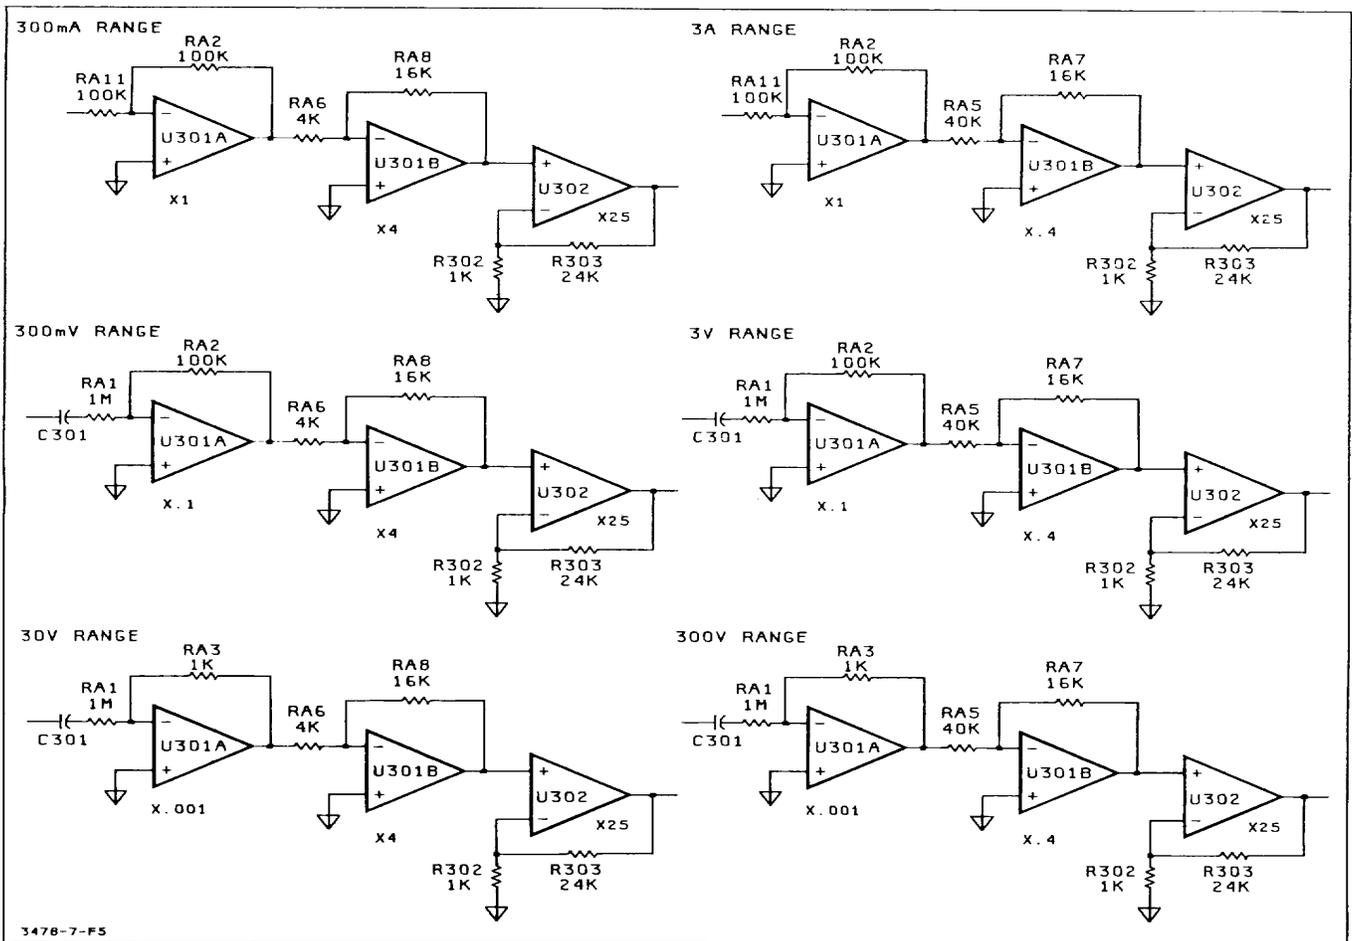

Figure 7-F-5. AC Gain Configurations
7-F-28. Amplifier Stages. Refer to Figure 7-F-5 and Schematic 2 for the following explanation.
a. The first amplifier stage (U301A) is an inverting amplifier with gains of X.00, X. 1, or XI (dependent on the ac range and function selected). The gains are determined by resistors RA1, RA2, RA3, and RA11 (all in U102), as shown in Figure 7-F-5. Capacitor C302 and resistor R305 are used for high frequency compensation (for flat gains at high frequency). The gain determining resistors are selected by MOSFETS SIAC through S6AC, and SI1AC (all in U102) which operate as switches. The gains of the amplifier and FETs selected for the ac functions are listed in Table 7-F-2.